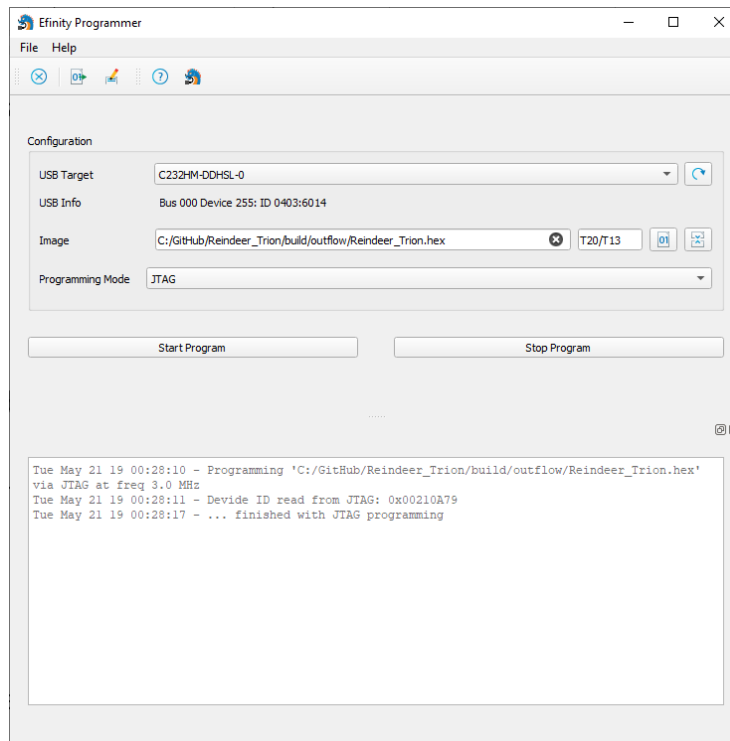

Figure 4-2 Programmer Setup
5. Set the programmer as shown in Figure 4-2. (The image path might be different on each PC)